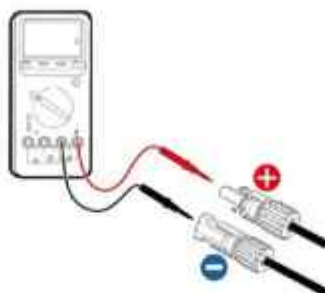

Fig 5.3 DC input voltage measuring
(2) After the DC connector is connected, use a multimeter to measure the voltage of the DC input string, verify the polarity of the DC input cable, and ensure that the voltage of each string is within the allowable range of the inverter, as shown in Fig 5.3.